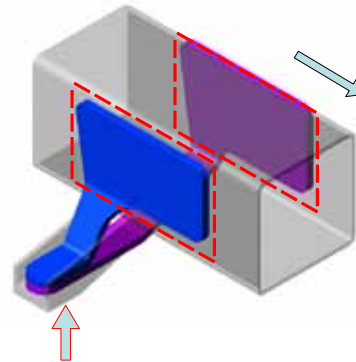

Figure 62
- Mark frame around plates. Figure 62